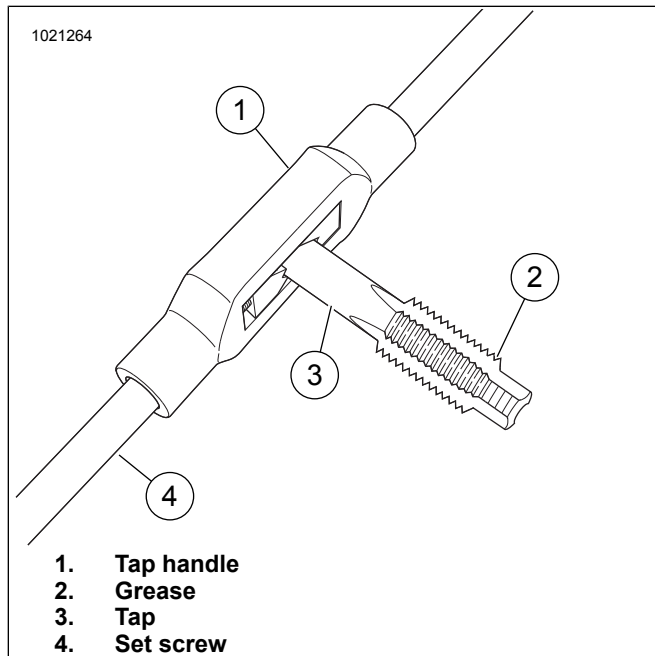
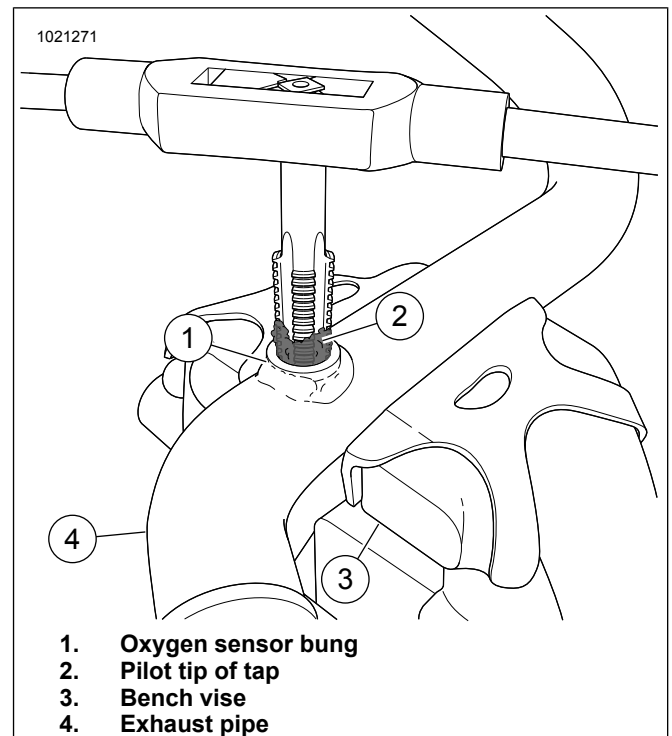

Figure 3. Tap Holder Assembly
Figure 4. Tapping Exhaust Pipe
1. Figure 3 Assemble tap to tap handle:
- a. Insert tap (3) into tap handle (1).
- b. Secure tap with set screw (4) of tap handle. Ensure tap is oriented so that set screw engages the flat of the tap.
- c. Apply grease (2) to end of tap.
2. Figure 4 Position and clamp exhaust pipe (4) into bench vise (3).